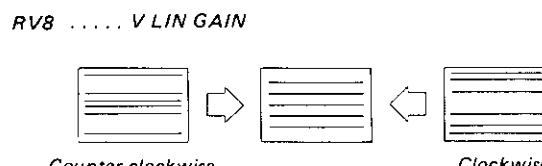

Fig. 28-3
4. Adjust the gain of V linearity with V.LG (RV8) on the DA board as shown in Fig. 28-3.